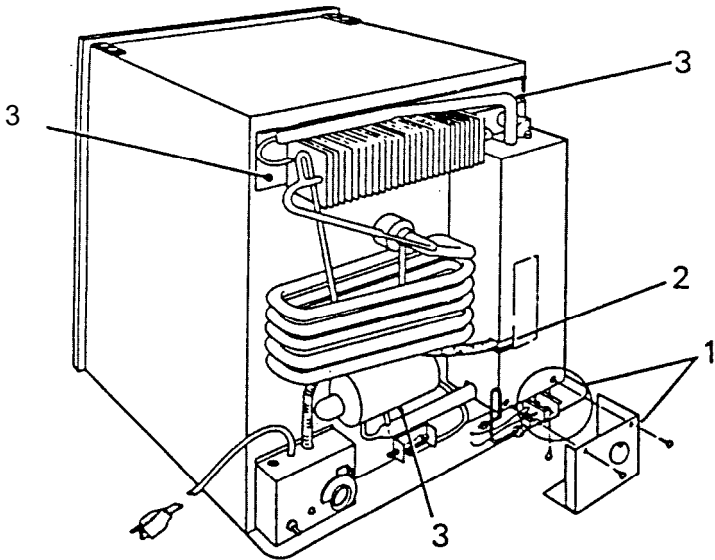

FIG. E1
1. Remove cover and disconnect burner from chimney (FIG. E1).
2. Remove heater from boiler case (FIG. E1).
6. Reconnect burner assembly to chimney and replace cover (FIG. E1).
7. Install the heating elements completely back into the pocket (FIG. E1).
1. Remove burner protection cover and remove burner from chimney (FIG. E1).
2. Remove heaters from boiler case (FIG. E1).